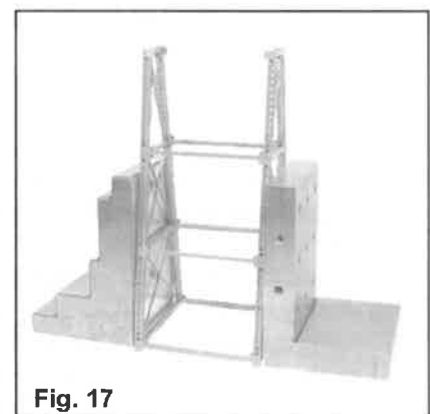
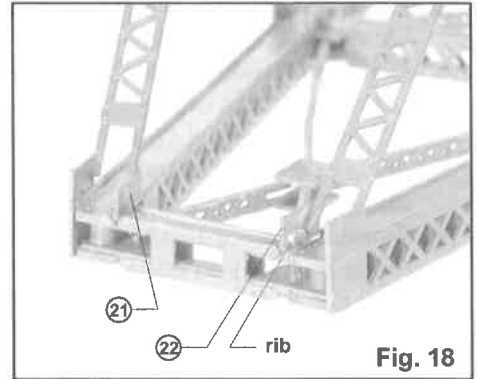

Fig. 17
Fig. 18
Lay a 2nd bent assembly flat on the work surface with the gusset plate extensions up. Hold the tower assembly from step 14 upside down (with the tower struts down) and place the ends of the tower struts on the 2nd bent assembly. Align and cement each tower strut to the 2nd bent assembly as done in step 14. View the tower assembly from above to check the squareness of the bent assemblies to each other. Set the tower upright and use angle plates, a square and weights, or other suitable tools to hold the tower square as the cement dries. See fig. 17.
16. Cement the tower X-braces part (20) to the tower assembly or substitute truss rods for the X-braces as described in step 8.
The tower X-braces are assembled in the same manner as the bent X-braces. Follow the instructions in step 6. Part (20) is used for all three stories, on both sides of the tower. Be sure the lattice straps on the X-braces are facing the top of the tower. After positioning but before cementing the X-braces in place, use angle plates, a square and weights, or other suitable tools to hold the tower square. See fig. 17. Once the tower is square and the X-braces are in their correct position, cement the X-braces in place. Note that the top end of the 1st story X-braces can only be cemented to an outside gusset plate until step 17 is completed.
17. Cement the top tower gusset plates (21) and (22) to the tower.
Lay the tower on its bent side and cement parts (21) and (22) to the bent assemblies and to the 1st story tower X-braces. Align these parts so the rib is to the inside, down, and toward the top of the tower. Part (21) is cemented on the left side, part (22) on the right. See fig. 18.
18. Cement the large rivet plates part (14) at the intersection of the two X-braces in all three stories and on both sides of the tower.